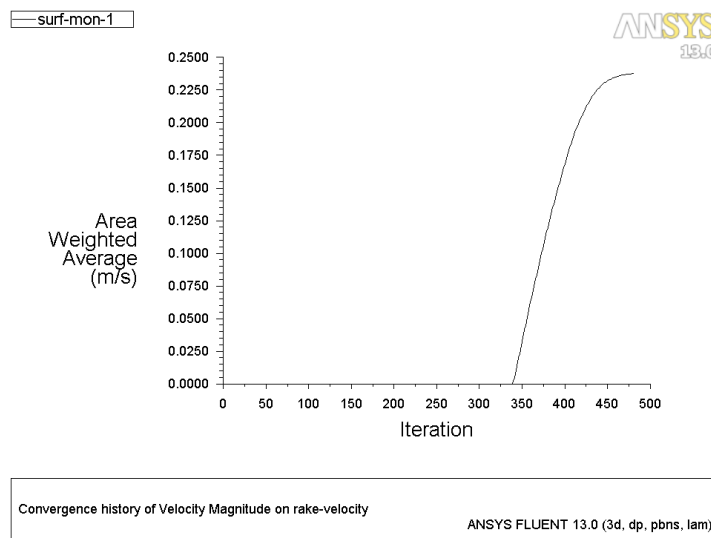

Figure 8: Convergence History of Velocity Magnitude on rake velocity
15. Continue the calculation by requesting another 1000 iterations (Figures 8, 9, and 10).